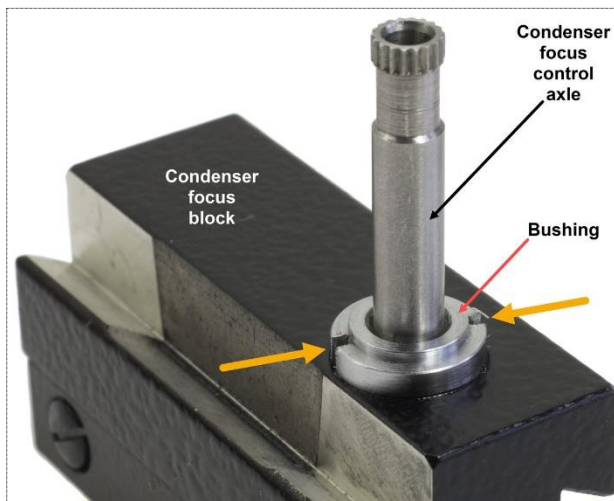
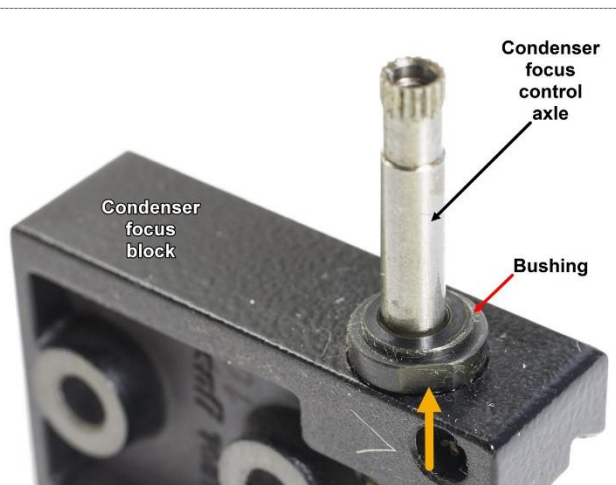
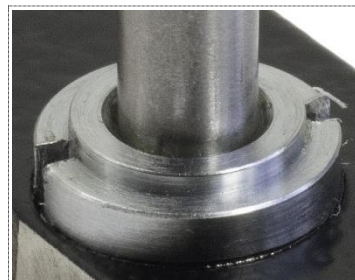
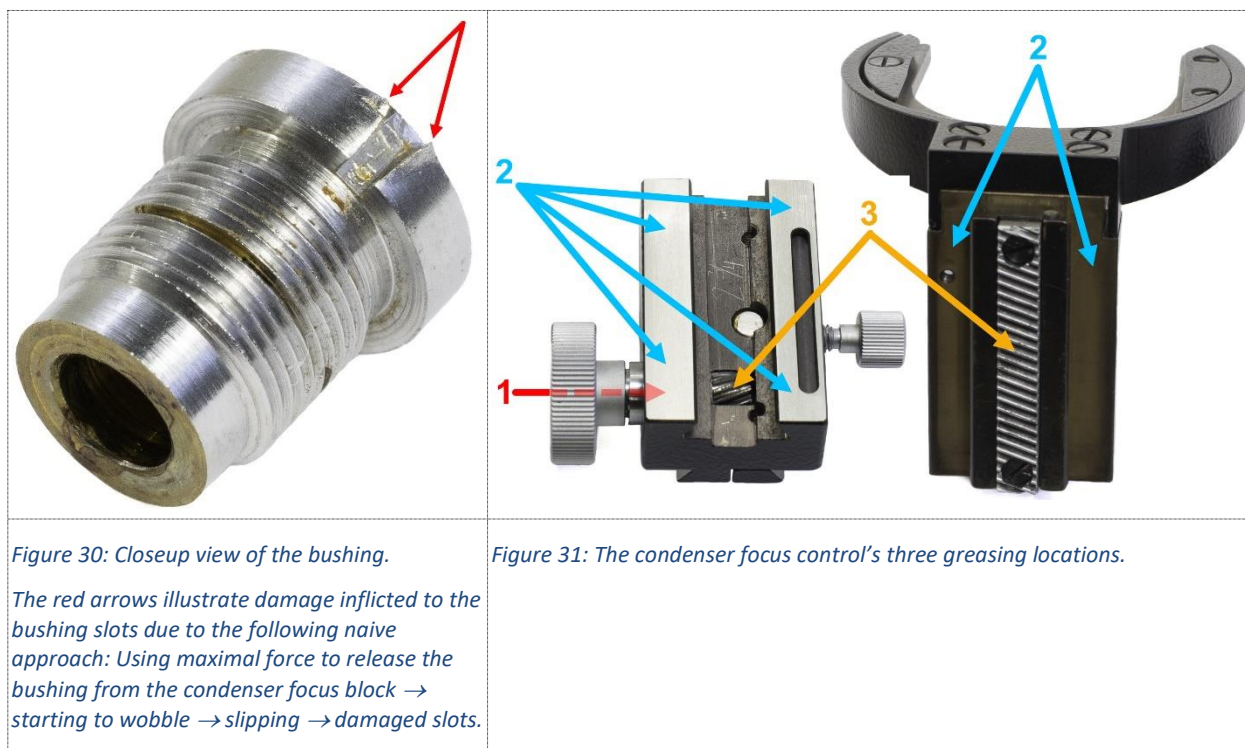

Figure 10: A condenser focus block with a non-adjustable bushing.
Figure 11: A condenser focus block with an adjustable bushing.
Figure 19: Non-adjustable bushing.
Figure 30: Closeup view of the bushing.
Late in the 170 mm tube length era (the “gray” era, late 1970s) some condenser holders were modified to allow for factory adjustment of the tightness between the focus control's rack and pinion. The purpose was to eliminate any play in the condenser focus control before the microscopes were released for sale. The design differences will be explained later, but are easy to recognize even without removing the condenser holder from the microscope by checking the appearance of the bushing between the condenser focus block and the focus control knob (compare Figure 8 vs. Figure 9, and Figure 10 vs. Figure 11.)
During the maintenance work particularly two tasks may prove difficult; these are 1) releasing the condenser focus knob from the condenser focus axle, and 2) releasing the non-adjustable bushing (Figure 10) from the condenser focus block. The issues will be discussed in more detail later, including precautions and suggestions for problem remediation.
As mentioned in section Design differences some newer condenser focus controls may have an adjustable bushing that is set to eliminate any play between the rack and the pinion. Identify which of the bushings it is that you have on your microscope by comparing it with Figure 8, Figure 9, Figure 10 and Figure 11, and then proceed with the procedures under subsection 4.1 or subsection 4.2 below that apply to your case.
4.1. Condenser focus control with a non-adjustable bushing (Figure 10 and Figure 19.)
The camera lens spanner approach can however be improved (although it will never be as good as a proper bespoke spanner.) First, obtain a lens spanner with removable tips. The tips must be of the flat screwdriver design (i.e., not the more common pointed tips), like in Figure 27, and the tips must also fit well into the bushing slots. Remove the tips from the lens spanner and clamp them in a heavy vise, like in Figure 28. Adjust the distance between the tips so they perfectly fit into your condenser focus block's bushing slots (yellow arrows in Figure 26.) Thoroughly tighten the vise jaws to make sure that the spanner tips are clamped rock solid. There still will be a weakness with this arrangement; when you resolutely attempt to release the bushing, the spanner tips are forced outwards and may slip out of the bushing slots thereby damaging them (red arrows in Figure 30.) To minimize the risk of such accidents, you could consider providing some additional stability, for example, by holding the tips fixed with large pliers, or even better, by locking them in with a suitable C-clamp.
Remove the condenser focus block from the isopropanol bath and wipe its surface dry. Without further delay, fit the condenser focus block over the spanner tips in the vise ensuring that the tips are completely and firmly inserted in the bushing slots. With a steady hand and without wobbling press the condenser focus block down on the tips and turn the block counterclockwise to release the bushing thread. Avoid too much force, if you use all your strength, you will inevitably wobble and slip and damage the bushing slots (Figure 30.) If the bushing remains stuck, you may need to repeat the solvent soaking for several more days before again trying to release the bushing. Another approach if the bushing is stuck is to soak the condenser focus block in the more powerful solvent acetone rather than in isopropanol. The disadvantage is that it may destroy the plastic washer that sits above the pinion. Then you will need to obtain a replacement plastic washer (on Amazon or eBay.)
- steel bushing (plain bearing), with a fine outer thread and a spiral grease groove on the inside; in the image the outer thread is still covered with a brownish red threadlocker. (See Figure 19 and Figure 30 for closer views of the bushing.)